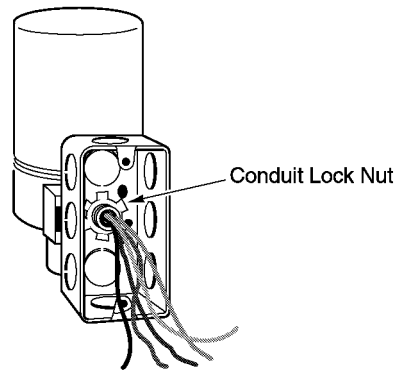

Figure-12 Attachment of Conduit Box to Threaded Adapter.
7. Install the rigid conduit, the flexible conduit, etc. to the conduit box as required. Refer to Figure-12.